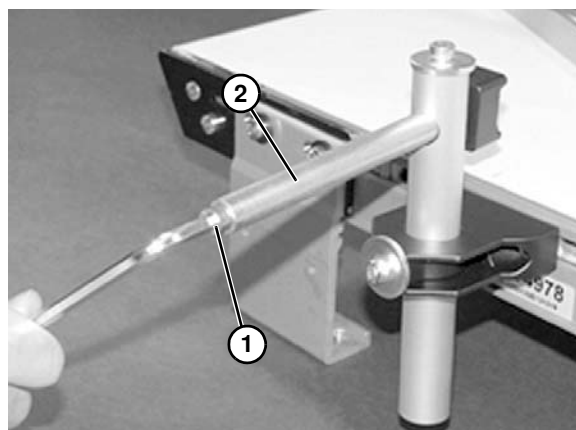
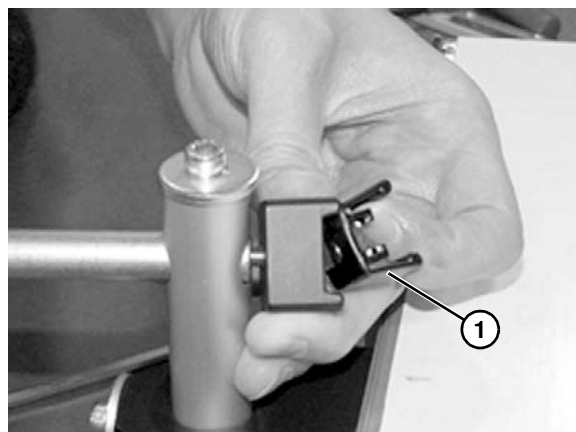
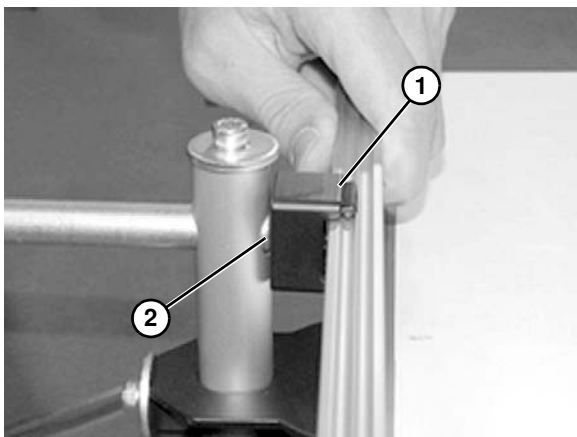

Figure 24
Figure 25
Figure 27
3. Loosen screw (**Figure 24, item 1**) on end of shaft (**Figure 24, item 2**) to remove clip (**Figure 25, item 1**).
5. Reassemble clip (**Figure 27, item 1**) and attach to shaft (**Figure 27, item 2**). Tighten screw (**Figure 24, item 1**) on end of shaft.